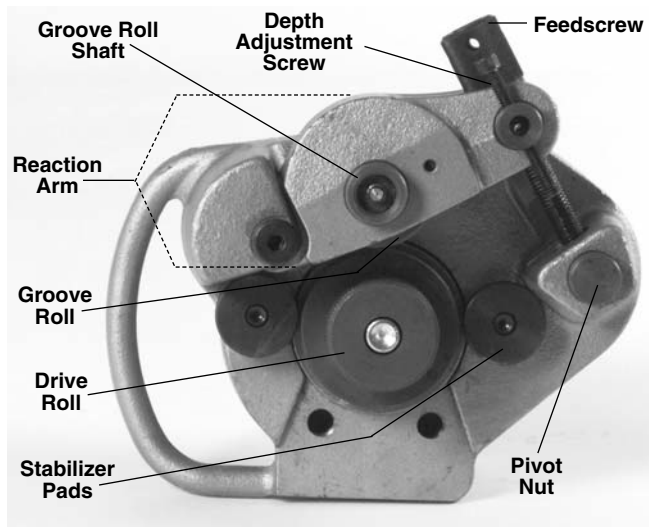

Figure 2 – “Open” Groove Roll from Drive Roll.
1. At a bench or on the ground, rotate the feed screw counter clockwise to “open” the groove roll from the drive roll (Figure 2).